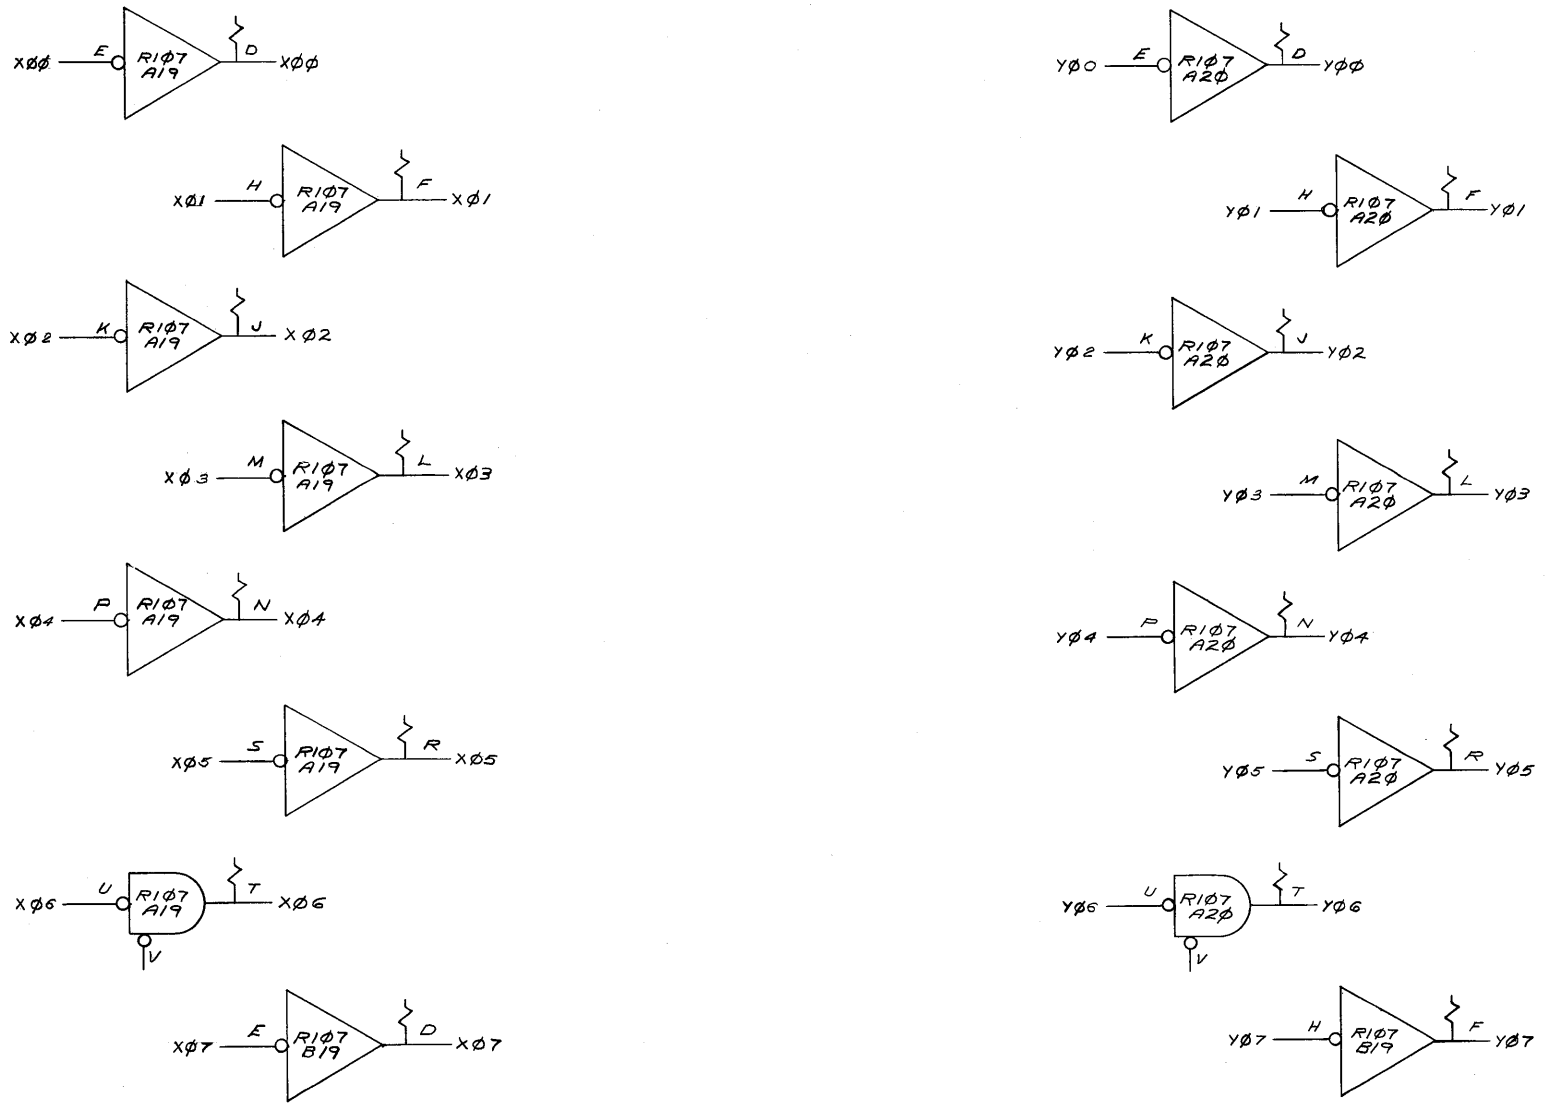

Figure 6-4 B-BS-AF16-0-5 Channel Selector Interface Block Schematic Diagram
- Figure 6-4 Channel Selector Interface Block Schematic Diagram (B-BS-AF16-0-5)